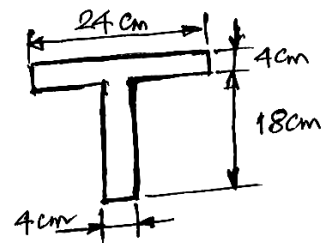

Fig Q-7
7. A simply supported beam has a length of 8 m, and a T-shaped cross-section as shown in Fig Q-7. The beam carries a uniformly distributed load of w kN/m. If the maximum permissible bending stresses in tension and compression are 30 MN/m^2 and 45 MN/m^2 respectively, find w .
- The elongation of a bar hanging under its own weight (W) is half what it would be if the bar was weightless and W was acting at its end.